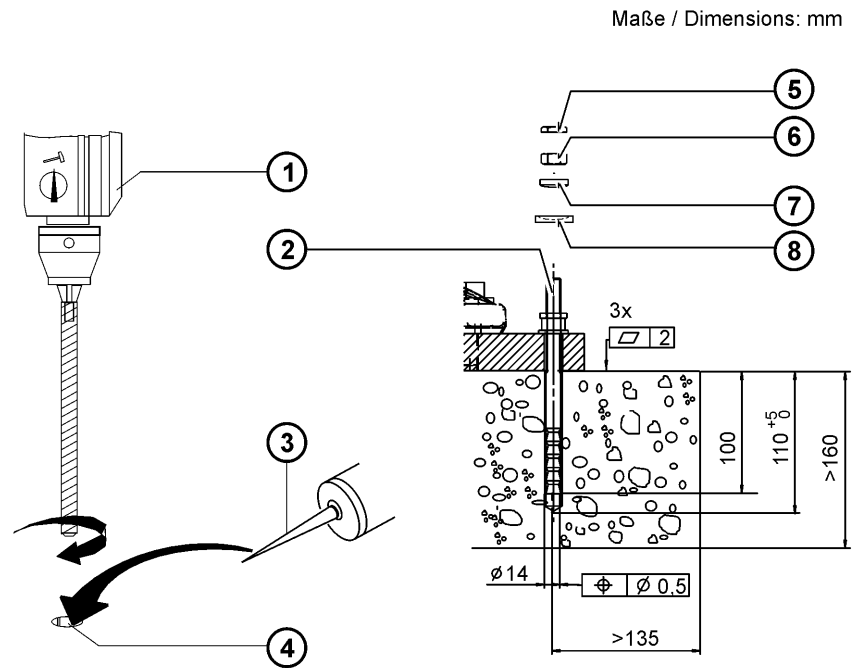

Fig. 8-1: Installation of resin-bonded anchors
6. Drill 6 anchor holes (>>> Fig. 8-1) through the holes of the bedplates into the foundation.